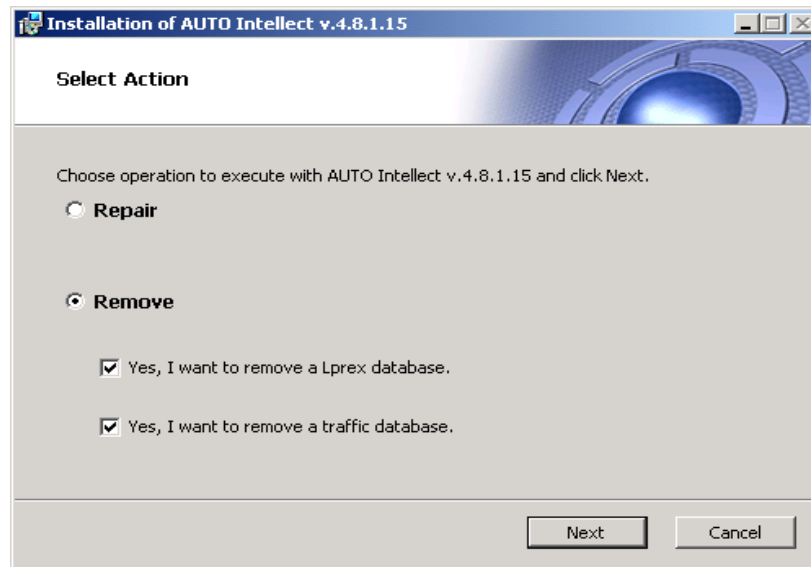

Fig. 6.5—1 The re-installation option selection dialog box
Step 2. At this stage of installation you should choose operation to execute with Auto Intellect. To select remove mode set "Remove" check box and click "Next" (see Fig. 6.5—1)